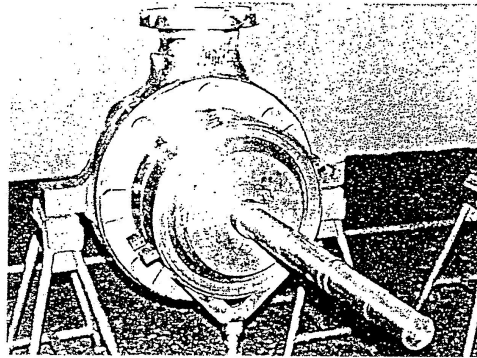

Fig.6 Pump supported at its Suction Casing
5. Support the suction casing (1080) with wooden squares or assembly stools in such a condition that internal pump components can be overhauled without interference. (see Fig.6)